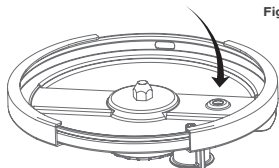

Fig.03
3. Check the safety valve is unobstructed, pressing the valve rod gently into the lid with the help of a sharp object. **(Fig.03)**